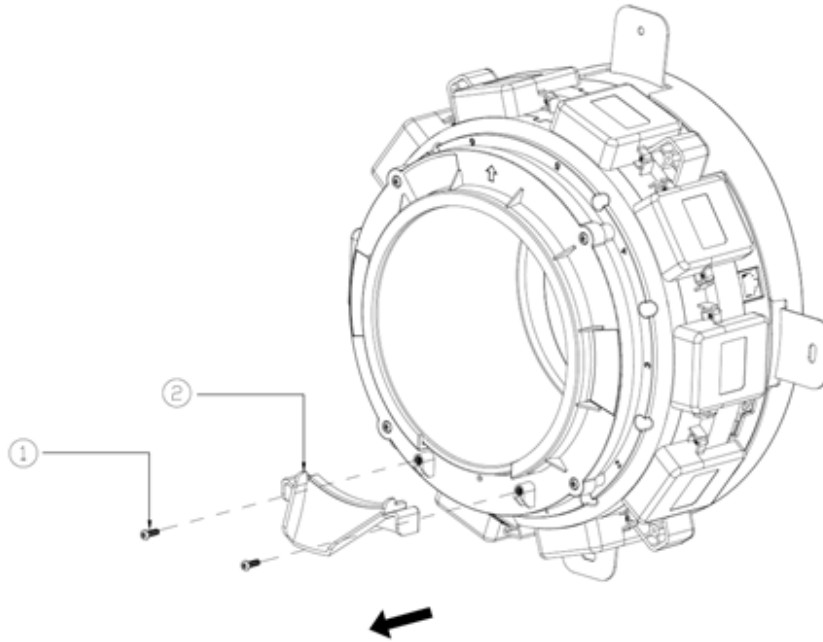

Figure 1-1
(1) Remove the Aqueduct
As shown in Figure 1-1, remove the 2 machine screws from the back of the scanner①, and remove the aqueduct②(RVM100-AQUEDUCT). The specification of the machine screw is M3*8mm.